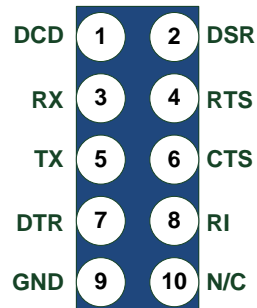

Figure 11 Serial Port Header
1. The pin-outs for Serial Ports COM1 – COM4 are shown in Figure 11.